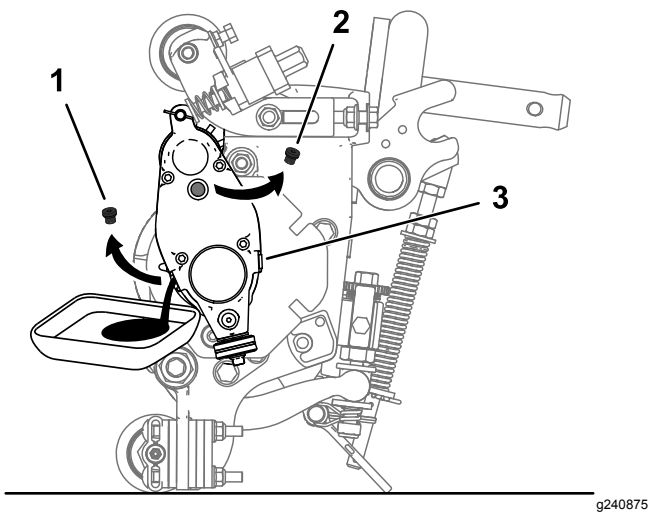

Figure 24
5. Tip the cutting unit back onto the kickstand until the drain port is at the bottom to ensure complete drainage (Figure 24).